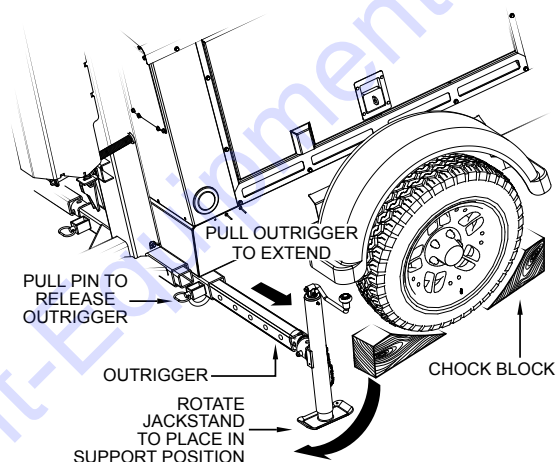

Figure 17. Deploying Outriggers
1. Place light tower on secure level ground with chock blocks (Figure 17) underneath each wheel to prevent the light tower from rolling.
2. Make sure *all* outriggers (Figure 17) are extended. To extend the outriggers, pull the locking pin on the outrigger and hold while sliding out the outrigger assembly